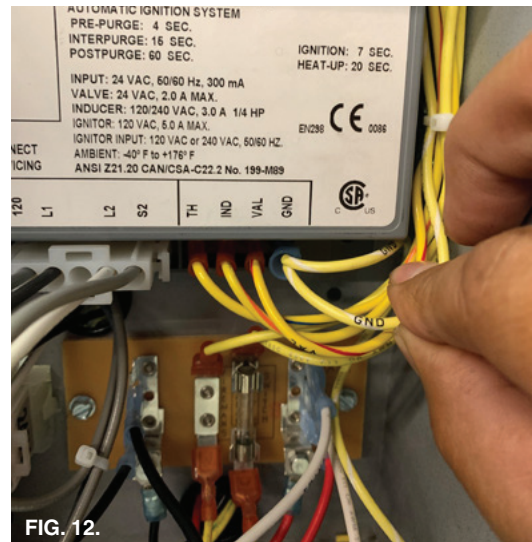

FIG. 12.
11. Connect the yellow/white wire coming from GND in the ICM to the GND cable as shown in Fig. 12.
11. Connect the White/Yellow wire to GND ¼" tab at the ICM as shown in Fig. 12.